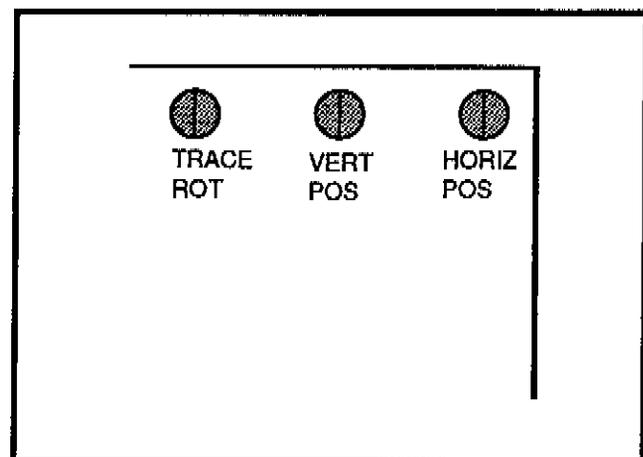

Figure 4-4. Rear-panel adjustments.
h. Adjust VERT POS, R6, (Figure 4-4) on rear of the Spectrum Analyzer to position the signal at the top graticule line.